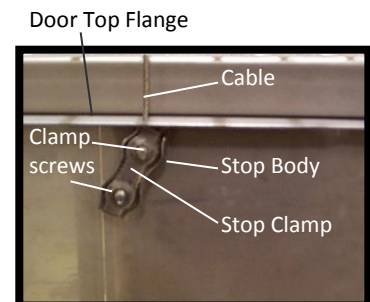

Figure 63: Cable Stop
2. With a 13/32 in. wrench, loosen the two clamp screws on the cable stop (Figure 63) and open the clamp.
5. Pass the end of the cable down through the hole in the center of the upper door flange (Figure 63).